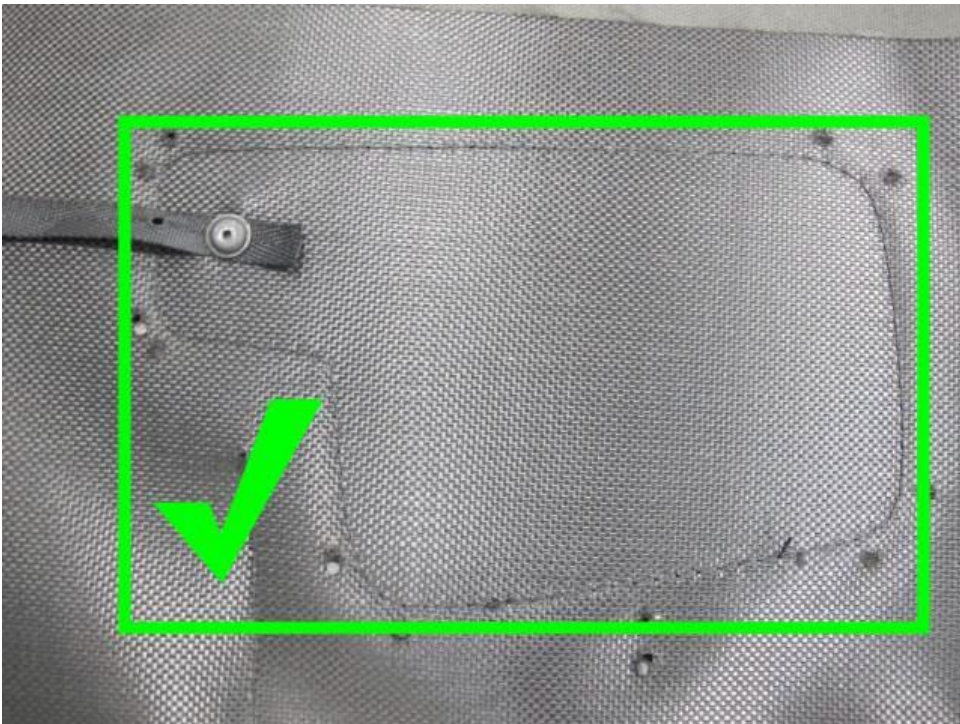

Figure 2
3) Referring to Figure 2 (Point A) - Check and confirm the insulation pad plastic paddles are not broken – missing or damaged **IMPORTANT:** the operative should confirm the paddles are flat, not bent or broken at any location
NOTE: The insulation pad in Figure 2 is shown not fitted to the vehicle for (photographic purposes only) there is no requirement to remove the insulation pad to inspect
IMPORTANT: There is no requirement to replace the insulation pad should the plastic paddles not be broken - missing or damaged the example shown in Figure 2 is to specification and exhibits no issues